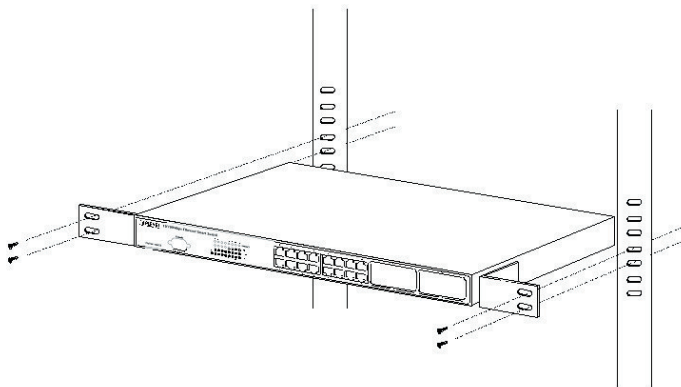

Figure 2-4 Mounting the Switch in a Rack
Step 5: After the brackets are attached to the switch, use suitable screws to securely attach the brackets to the rack, as shown in Figure 2-4.